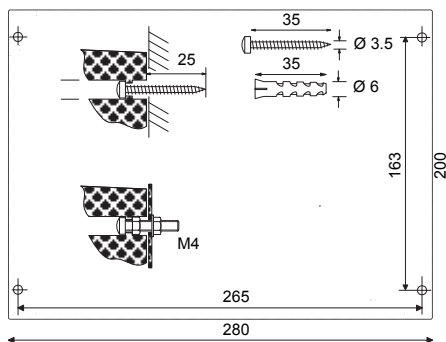

Fig. 5.1: Wall installation (dimensions in mm)
- At the chosen location, drill 4 holes in the wall (see Fig. 5.1).